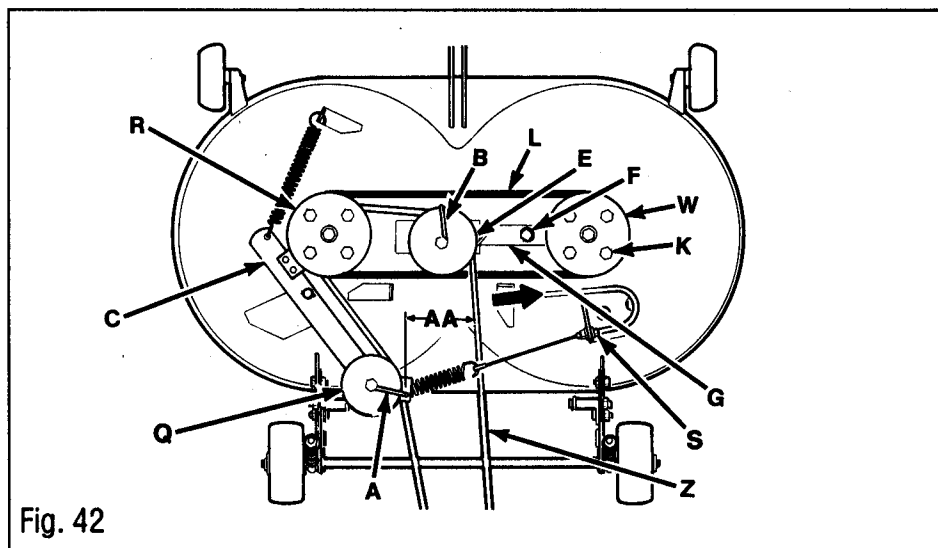
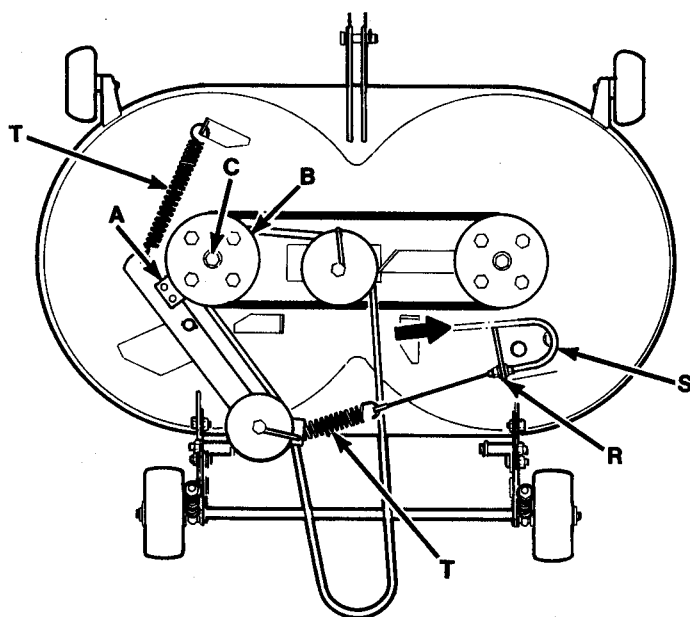
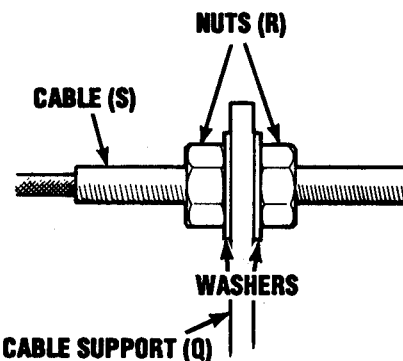

Fig. 42
Fig. 47
Fig. 48
1. Loosen belt guides (A & B Fig. 42 and (P, Fig. 45).
2. Rotate idler arm (C) away from pulley (R). Replace belt (Z) with new belt.
3. Route belt between idler (Q) and belt guide (A). Place guide (A) in approximate position shown and secure.
4. Place new belt into groove of stationary idler (E) and secure belt guide (B) in rear of slot as shown.
28" Decks Adjust the mower drive cable end (S, Fig. 42 and S, Fig. 48 on the following page) or move mower back by adjusting pivot location on lift arms (E, Fig. 45). Repeat this test until belt does not move. Check mower leveling after adjusting pivot (E).
1. Loosen screw (F, Fig. 42) and rotate arm (G) 90° to the rear.
2. Loosen four mounting bolts (K) securing pulley (W).
3. Slide pulley (W) toward the center.
33" & 36" Decks Adjust the mower drive cable end (S, Figs. 42 & 44 and S, Fig. 48 on the following page) or relocate the adjustable pulley (B, Fig. 42 or X, Fig. 44) within its slot on the idler support bracket. If further adjustment is necessary, move mower ahead by adjusting pivot location on lift arms (E, Fig. 45). Repeat this test until belt does not move. Check mower leveling after adjusting pivots (E).
2. If brake pad (A, Fig. 47) does not squarely contact both top and bottom surfaces of pulley (B), re-position pulley (B) as follows:
3. Adjust cable (S, Figs. 48 & 49) at nuts (R, Fig. 47 & 48) so there is a slight slack in spring (T, Fig. 47). *WHEN ADJUSTED, SPRING (T) SHOULD NOT BE UNDER TENSION*
4. If blade still does not stop within 5 seconds after the mower drive has been disengaged, replace brake pad (A, Fig. 47).
3. Adjust cable (S, Figs. 48 & 49) at nuts (R, Fig. 48) so there is a slight slack in spring (T, Fig. 44). *WHEN ADJUSTED, SPRING (T) SHOULD NOT BE UNDER TENSION*